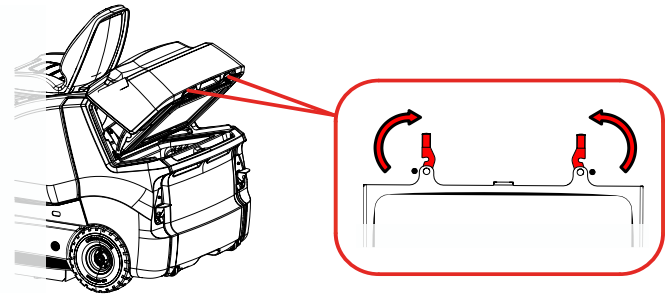

Fig. 41
- Hold the filter holder firmly and undo the dust filter lock on the left and right. (Fig. 41)